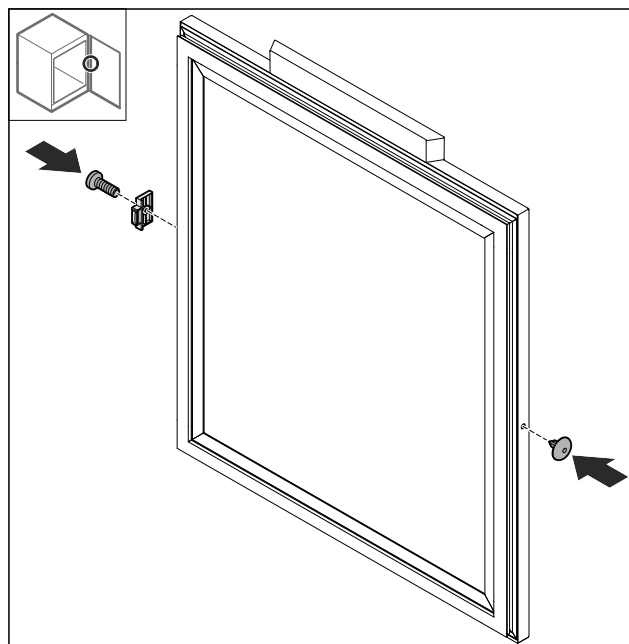

Fig. 73
- Mount the door stopper Fig. 73 (1) turned by 180° on the opposite side.
- Insert the cover Fig. 73 (2) on the opposite side.